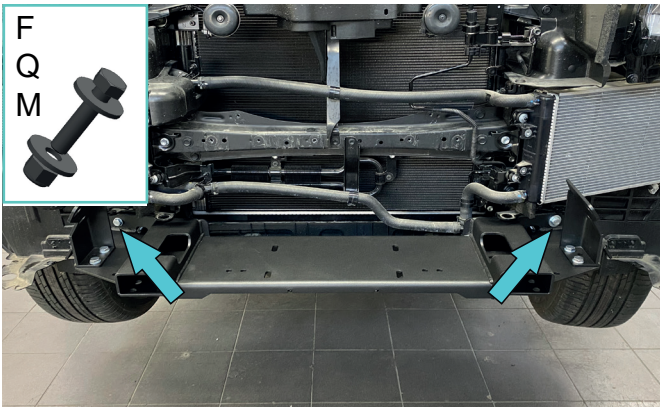

Fig.21
21. Install winch bracket (item 9) and fix on support brackets using bolts M10x30, washers 10, nut M10 (item F, Q, M) (fig.21).